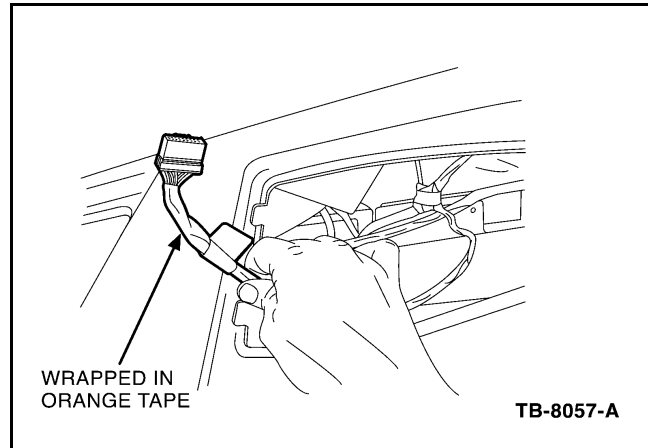

Figure 16 - Article 04-24-9
- f. Unplug the J7A 20-pin connector from the back of the gauge. The orange tape must be removed 3" (7.5 cm) back to the harness tag (Figure 16).